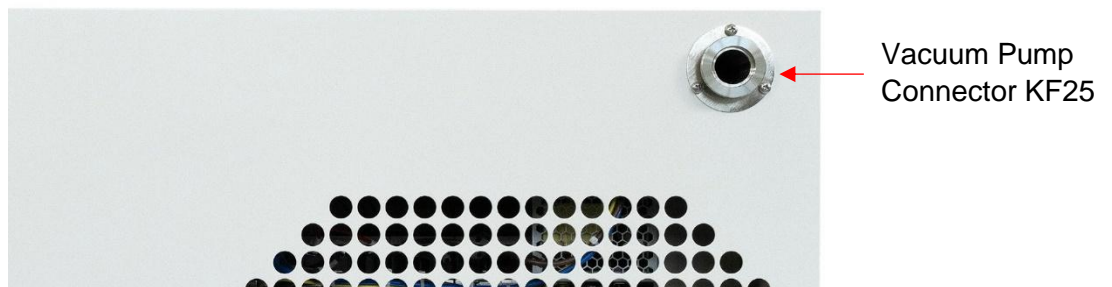

Figure 1
- The connector for the vacuum pump is located at the upper right corner at the back of the freeze dryer (Figure 1).